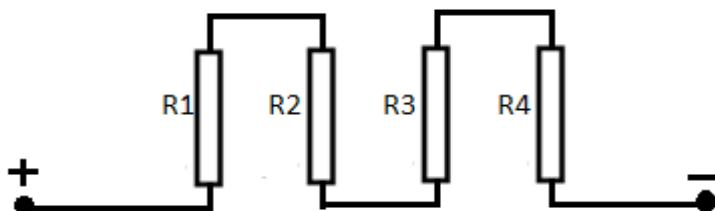

FIGURE 3.2: RESISTORS CONNECTED TOGETHER
3.7 Figure 3.2 shows resistors connected together. Are these resistors connected in series or in parallel? (1)